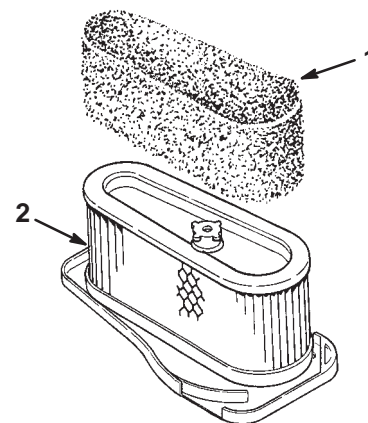

Figure 21
9. Carefully slide the foam element off the paper element (Fig. 21).
- Carefully slide the foam element onto the paper air cleaner element (Fig. 21).